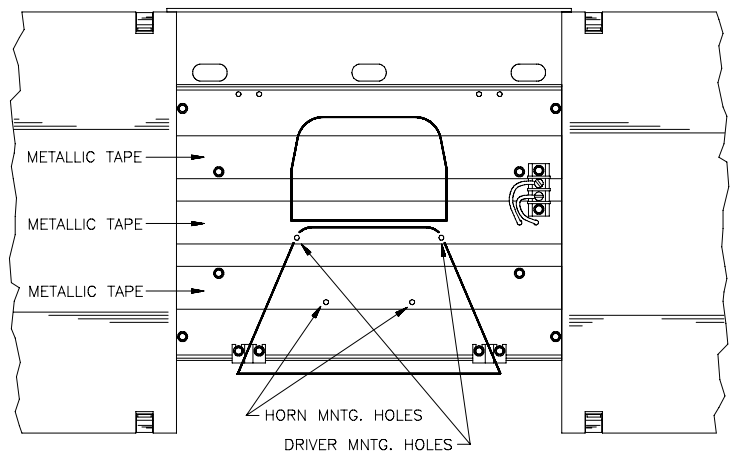

Figure 1
(Single Speaker Installation in 43", 47", 52" & 58" Light bars) Speaker Installation is advised at this point while the speaker section is easily accessible. To install a speaker, first remove the two (2) hex-head screws, (4 screws on 58 1/4" bars) from the bottom of the perforated side of the speaker cover. The cover is hinged at the back--pull the front of the cover up and over the lenses to remove it. Figure 1 shows the speaker cover opened and location holes for installing a Code 3 "LP" speaker. If other than a Code 3 "LP" speaker is used, two possibilities exist for speaker installation. An "LPSPKR" conversion kit is available from the factory to mount an existing speaker in an MX7000™. Otherwise, holes must be drilled for installation. The center speaker deck is 1/8" thick aluminum and may be drilled almost anywhere. Before drilling, however, it is imperative to remove the speaker deck so as not to damage any components below. All holes in this area not used must be sealed with some type of water resistant caulking so that components below are protected from the elements. Re-install the speaker deck, then mount the speaker and connect the leads to the terminal block. Non "LP" speaker bells must be trimmed to match the speaker cover contour. Replace the cover.